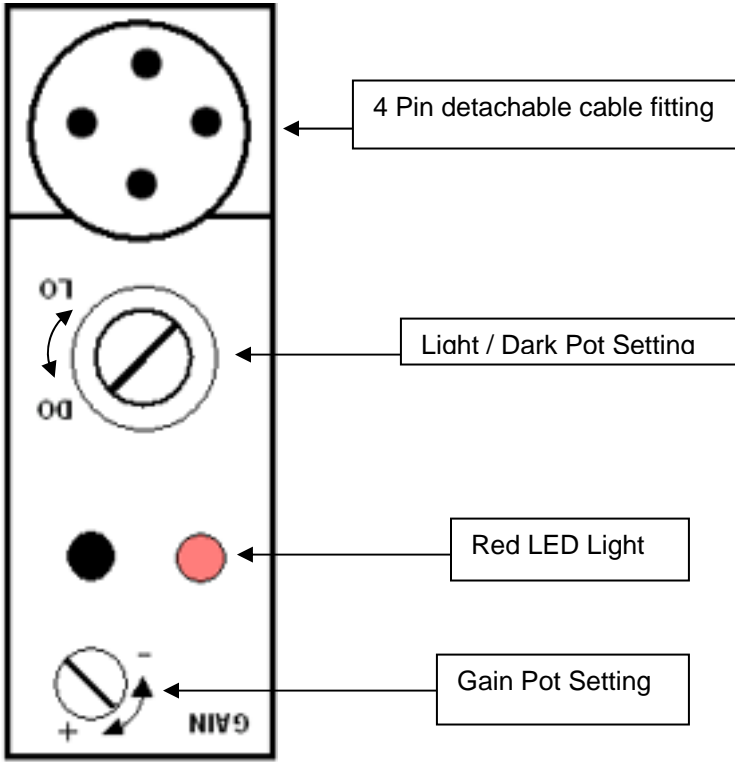

Fig. 3-6
15. Set the “Light / Dark” pot setting; using a small flat blade screw driver, slowly and very carefully turn the pot setting, located next to the electronic cable connection, in a counter clock-wise direction until full range of motion is felt, see figure 3-6.
- a. Using a small flat blade screwdriver, slowly and carefully turn the pot setting located furthest from the electronic cable connection in a counter clock-wise direction until full range of motion is felt, see figure 3-6. The red LED indicator light should be off at this point.
17. Return the plastic cover, removed in step (3) to its original position.